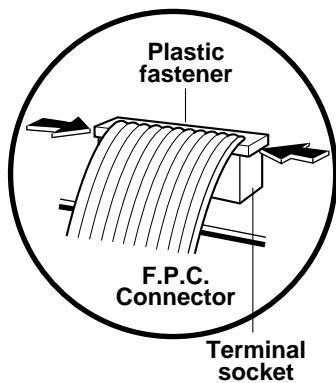

Figure 10
Follow the steps below as illustrated Figures 10 and 11 to remove the F.P.C. connector.
- (1) Hold the edges of the plastic fastener with thumb and forefinger. (Figure 10)